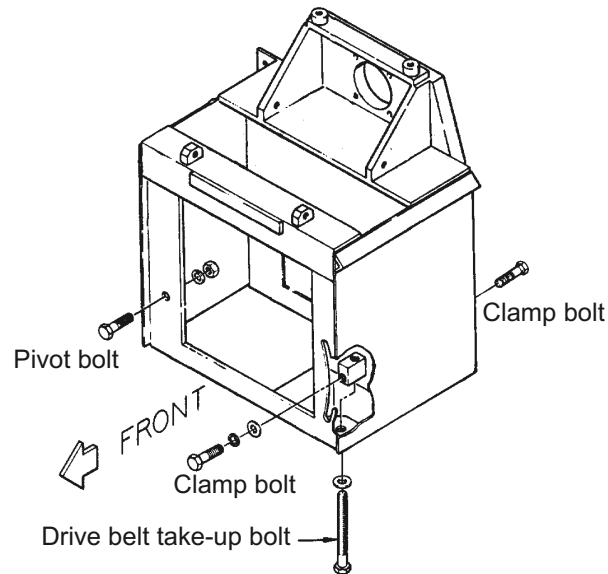

Figure 91 - Twine Needle Yoke in Home Position
3. Tighten (B) (see Figure 91).